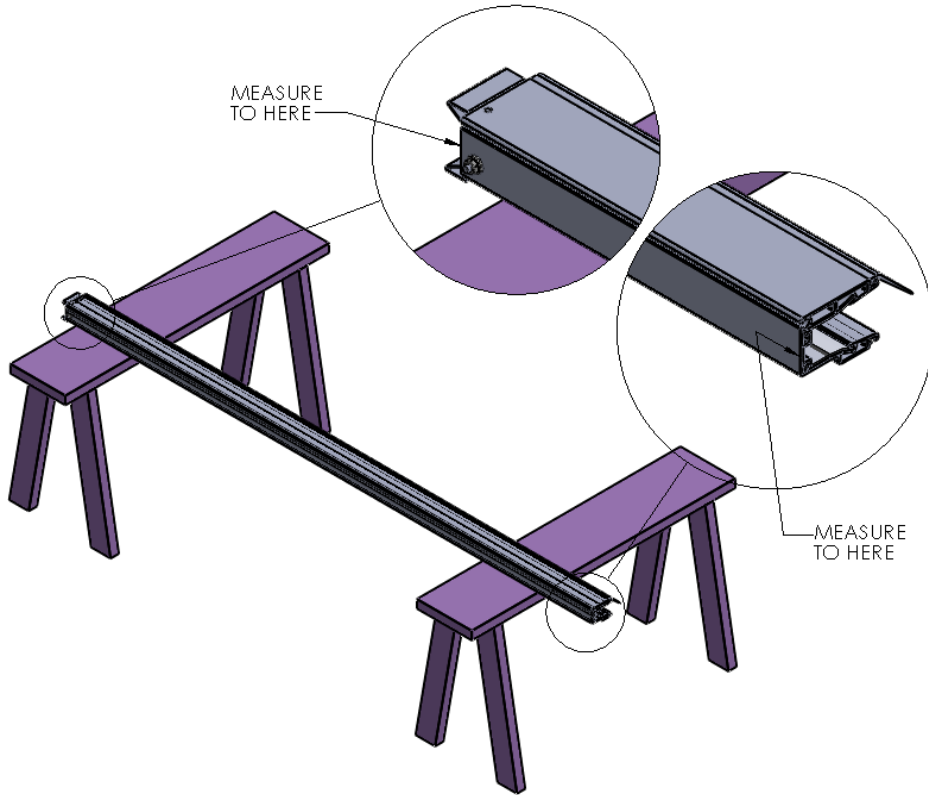
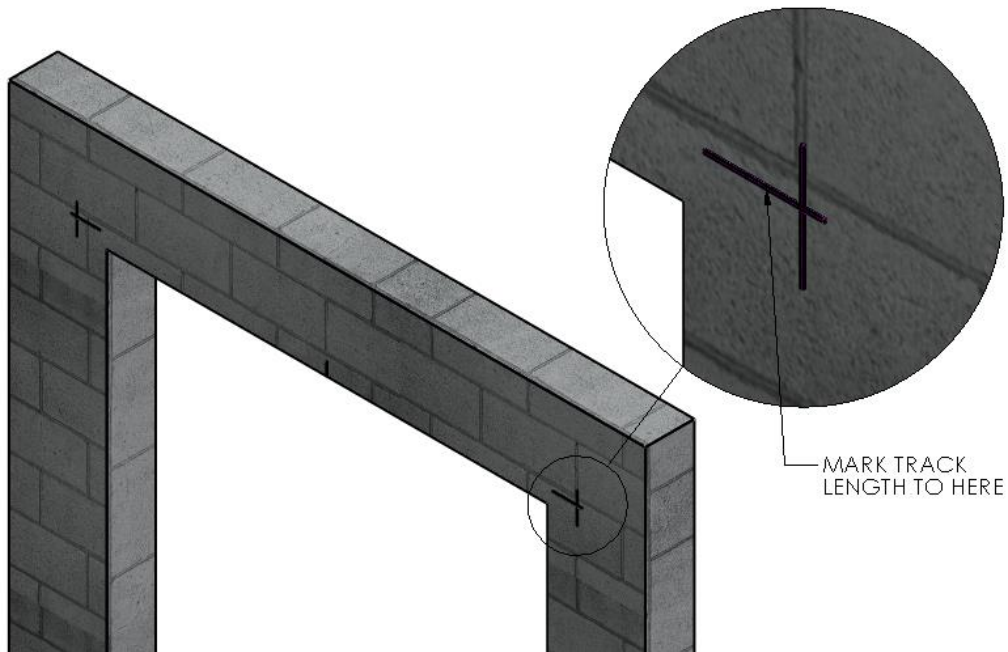

Figure 4 MEASURE TRACK HEIGHT
Figure 5 MARK TRACK HEIGHT
5. Set one of the Vertical Track Assemblies on your work surface and measure its overall length. Do not include the Transition piece in your measurement. Add 1/4" to this number and take note. This is the height dimension needed to mark the location of the Header Bracket's bottom edge. With that number, mark a horizontal line on each side of the opening that intersects the previously drawn vertical line. (Figure 4 MEASURE TRACK HEIGHT) (Figure 5 MARK TRACK HEIGHT)